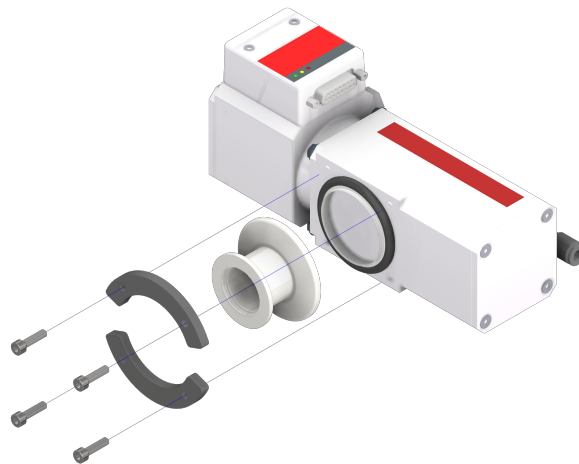

Figure 15: Mounting of the KF40-to-KF25-reducer to the HiPace® 10 Neo pump. Make sure the screws are tightened evenly and use only hand-tightening.
6. Mount the KF40-to-KF25-reducer to the flange on the pump as shown in Figure 15. Ensure the screws are tightened evenly until hand-tight. Do not apply excessive force.